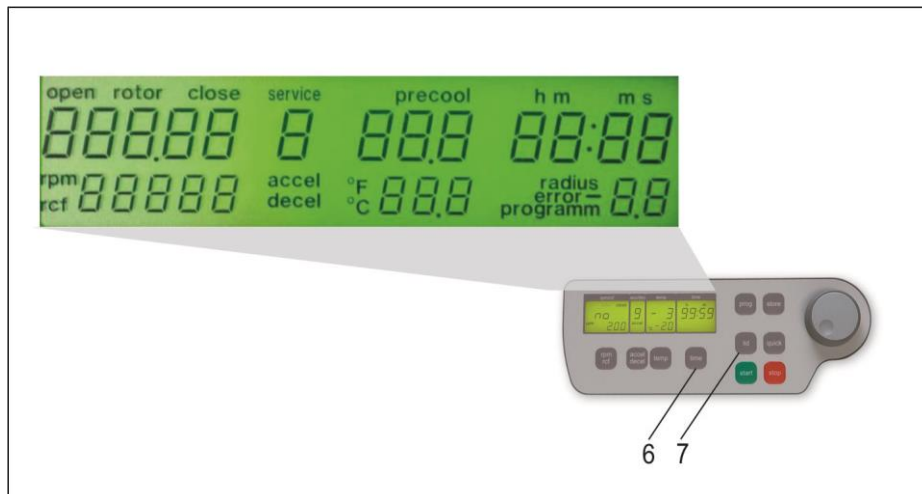

Figure 2
If the centrifuge is still turned off, press the keys, "time" (6) and "lid" (7) simultaneously, to turn on the main switch of the centrifuge. Now, release both keys again. As a result, a display test is executed for approx. 5 seconds. All possible indications will appear at the same time, (see Figure 2).